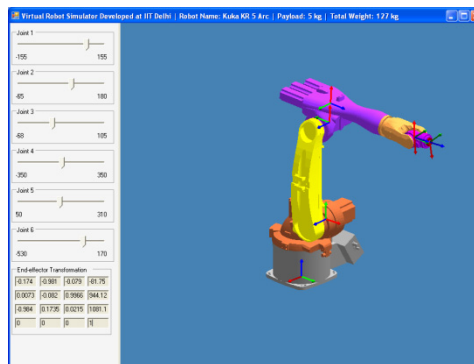

Figure 25: Virtual Robot Application Being Controlled from MATLAB
4. Open C:\VirtualRobotsCOM\virtualRobotInMatlab.m in MATLAB and run it. Virtual Robot Application as shown in Figure 25 is displayed.
6. Denavit-Hartenberg (DH) parameters of Kuka KR5 robot is given in "C:\VirtualRobotsCOM\DHPParameters_KukaKR5.pdf"